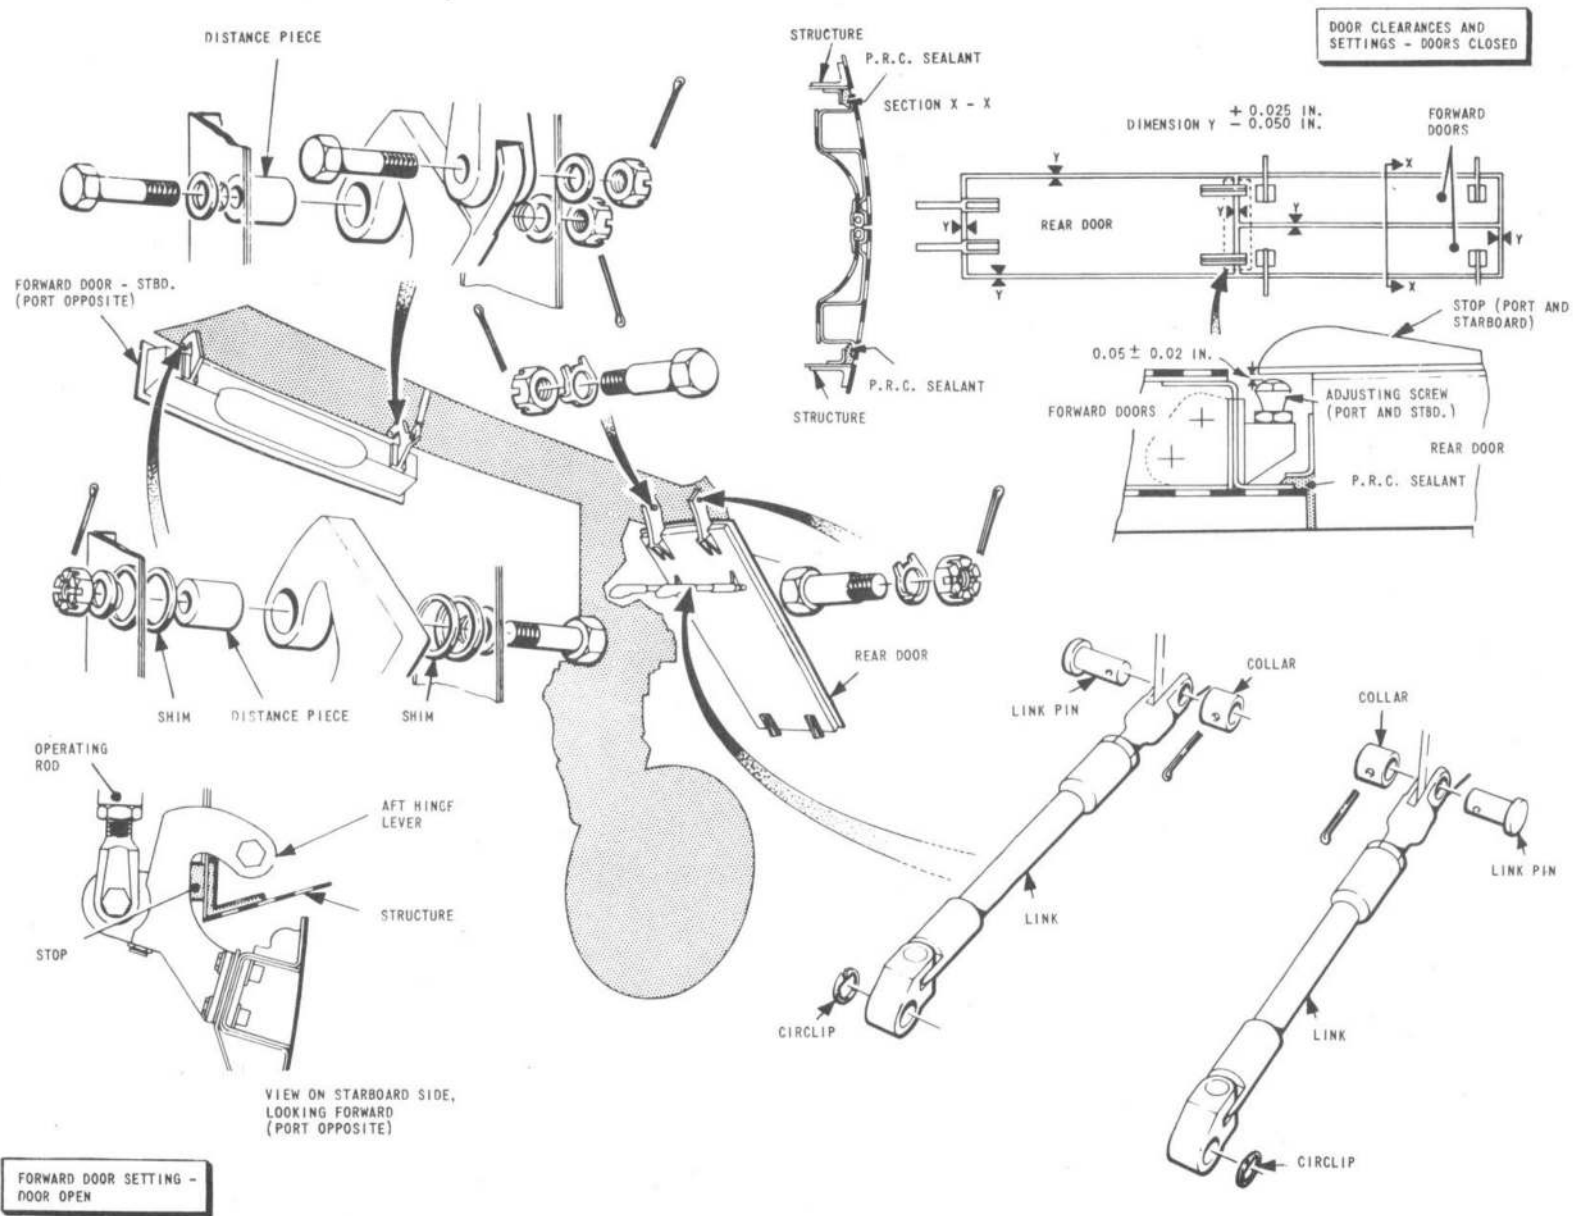

FIG. 19. NOSE UNDERCARRIAGE DOORS — REMOVAL AND ASSEMBLY
- (8) Fully retract and extend the undercarriage using the hand pump, checking for fouls and correct functioning.
- (9) Carry out a functioning test (Chap. 6).
- (10) Disconnect the rear door links from the door.
- (11) Assemble the armament pack (Sect. 5).
- ◀ (12) Repeat (6) ensuring that the pins are correctly fitted and locked (fig. 19). ▶
Nose undercarriage doors (fig.19)